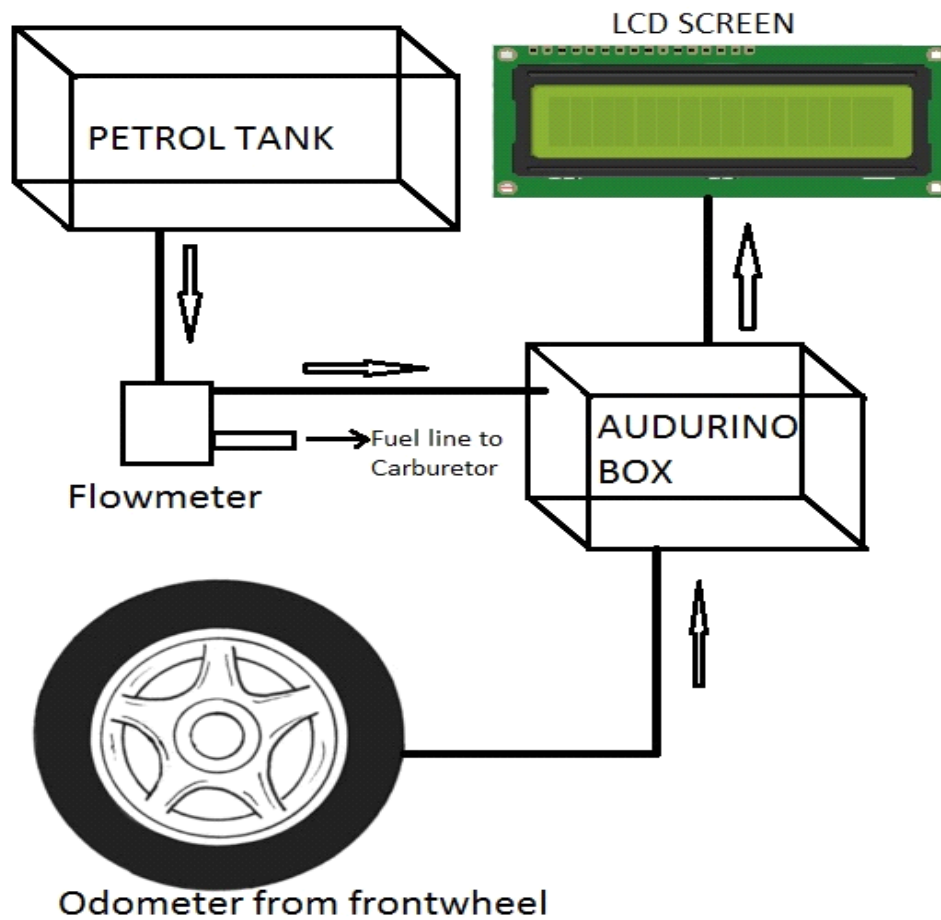

Fig. 1 Proposed Method
- The prototype device uses two sensors and a microcontroller, for the device to function as shown in the Figure 1.